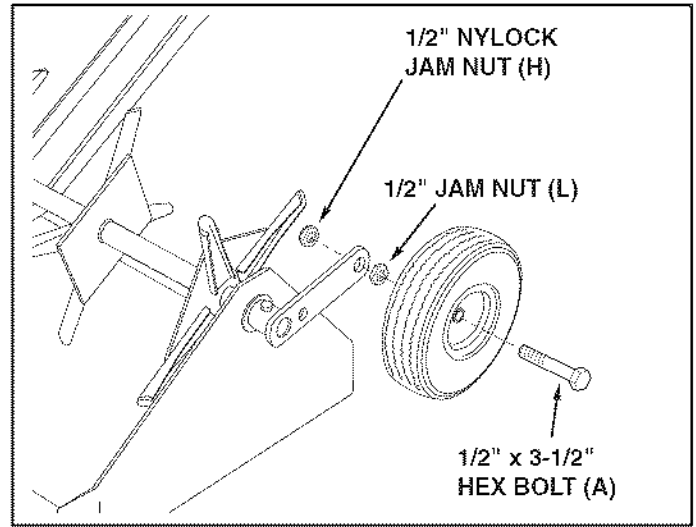

FIGURE 9
- Assemble a wheel to a wheel bracket as shown in figure 9. Use a 1/2" x 3-1/2" hex bolt (A), one 1/2" hex jam nut (L), and one 1/2" nylock jam nut (H). Adjust the nuts so that the wheel is held securely with minimum end play but will spin freely. Repeat on other side. See figure 9.